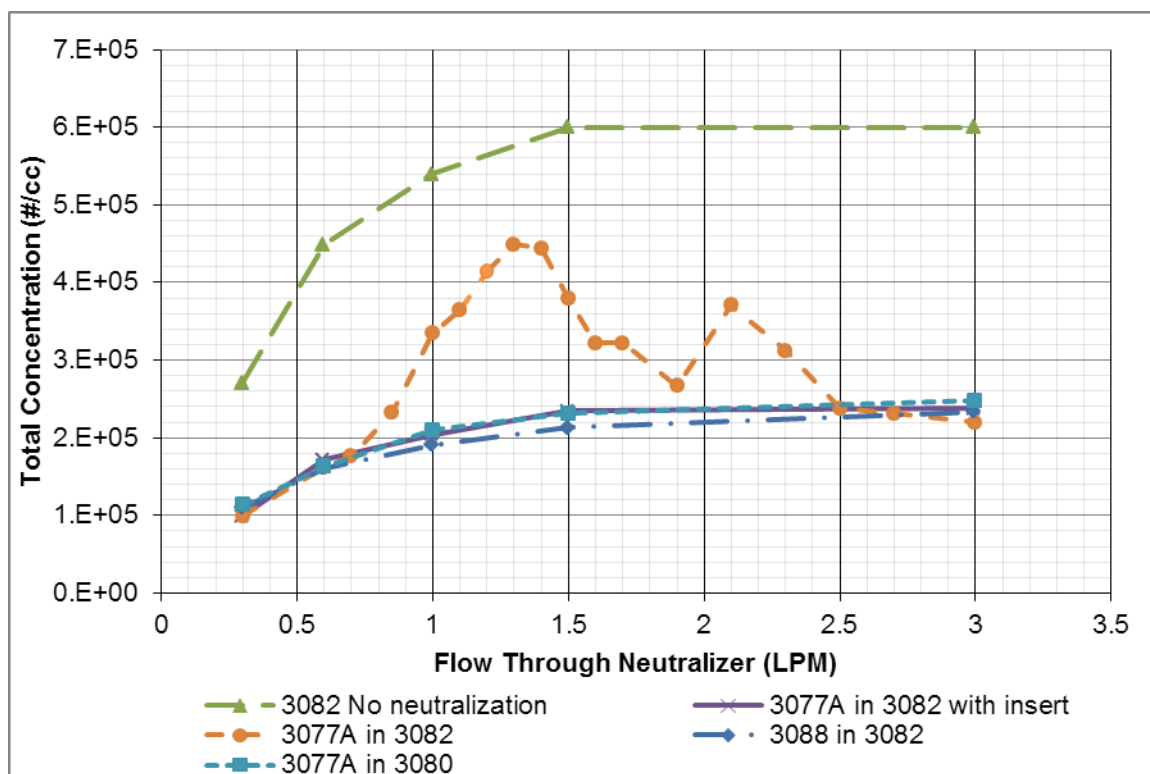
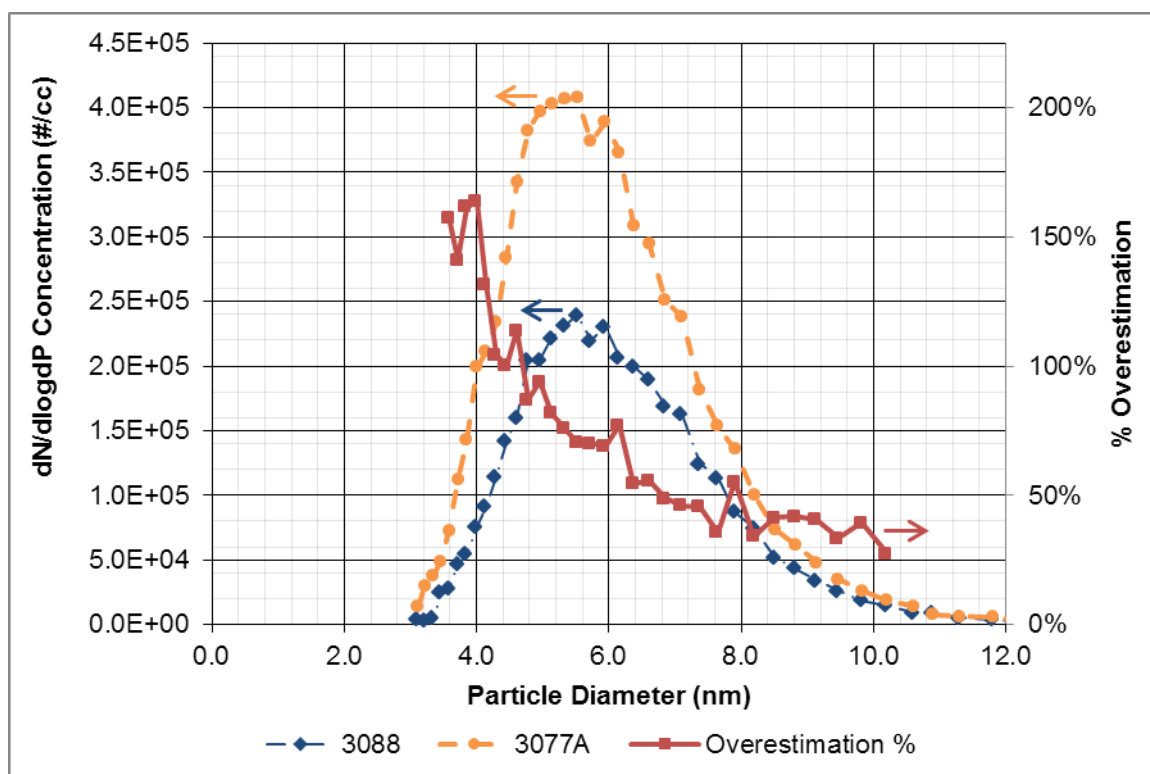

Figure 1: Effect of sample flow rate and neutralization on total concentration
Figure 2: Concentration overestimation as a function of particle size at 1.5 L/min aerosol flow, NaCl aerosol
The 3077(A) aerosol neutralizer may have reduced neutralization efficiency at certain flow rates when operated outside a classifier or within a 3082 classifier with date code May 2014 or earlier. In these configurations, the flow through the neutralizer may be laminar causing fluid near the centerline of the flow to pass through the neutralizer body rapidly while fluid near the outer edges of the flow recirculates within the neutralizer. The discrepancy in residence time within the neutralizer causes insufficient neutralization of the aerosol along the neutralizer centerline. Depending on the state of charge of the aerosol being measured, insufficient neutralization can lead to inaccurate size distributions and number concentrations. As shown in Figure 1, for a highly pre-charged aerosol, between sample flow rates of 0.7 L/min and 2.5 L/min, the insufficient charging of the 3077(A) neutralizer installed in a 3082 classifier results in incorrect total concentration measurements. Figure 2 shows the overestimation dependence on particle size for a highly pre-charged example aerosol.